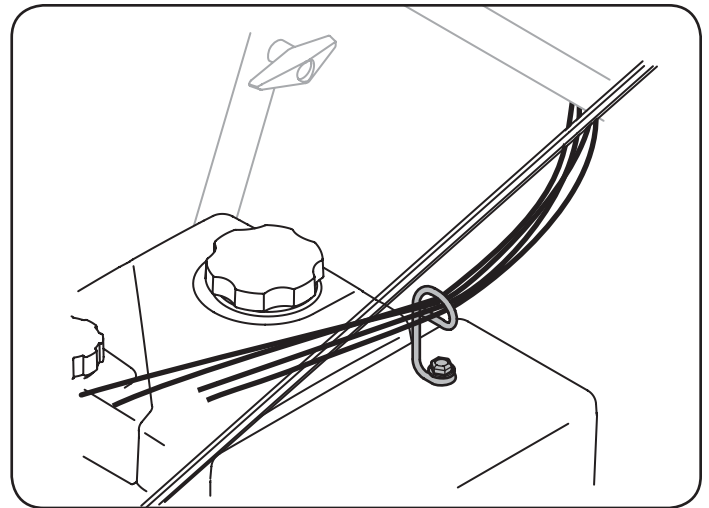

Figure 8
6. It is important that all cables be routed through the cable guide and remain positioned on the left side of the chute control rod. See Figure 8.